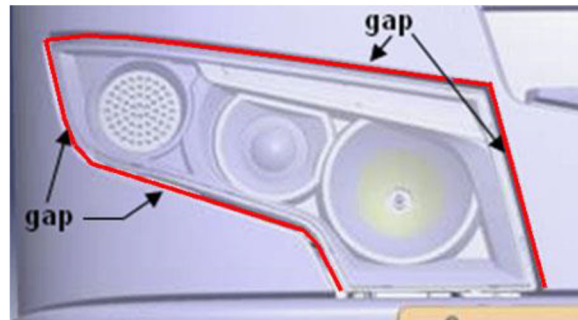

FIGURE 17
5. The gap shown in red on **Figure 17** should be 5 ± 2 mm.